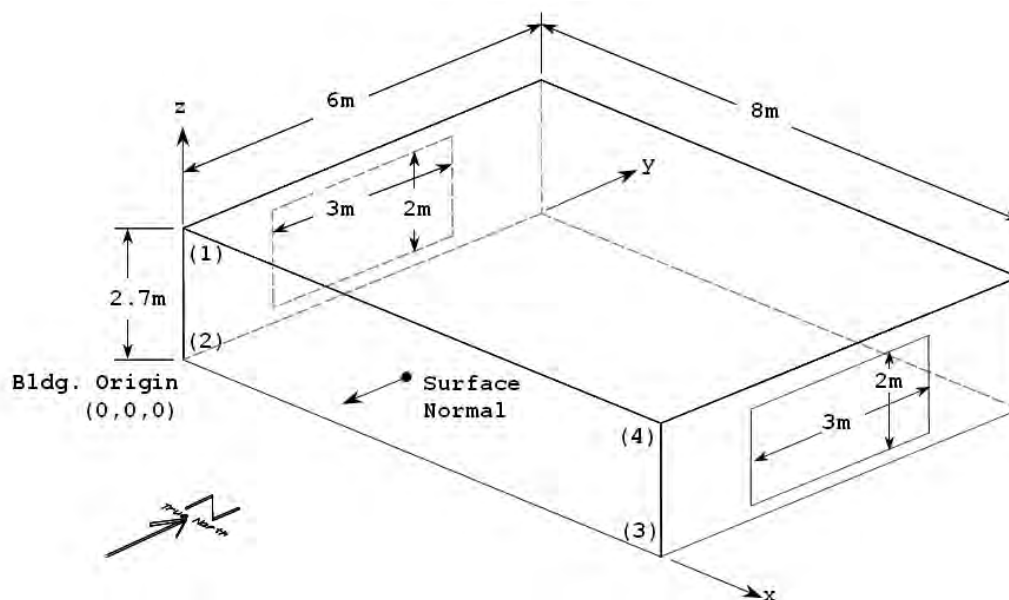

Figure 11. Schematic for Exercise 1
- 5) Add the east window (3m wide by 2m high, centered on wall, see *the drawing in Figure 11 to determine coordinates*):
Vertex coordinates = *as determined from the drawing Figure 11*. Coordinates in this input are in World Coordinates (all relative to the global origin of 0,0,0). Coordinates are specified as viewed from the outside of the surface, using the rules specified in the SurfaceGeometry object.